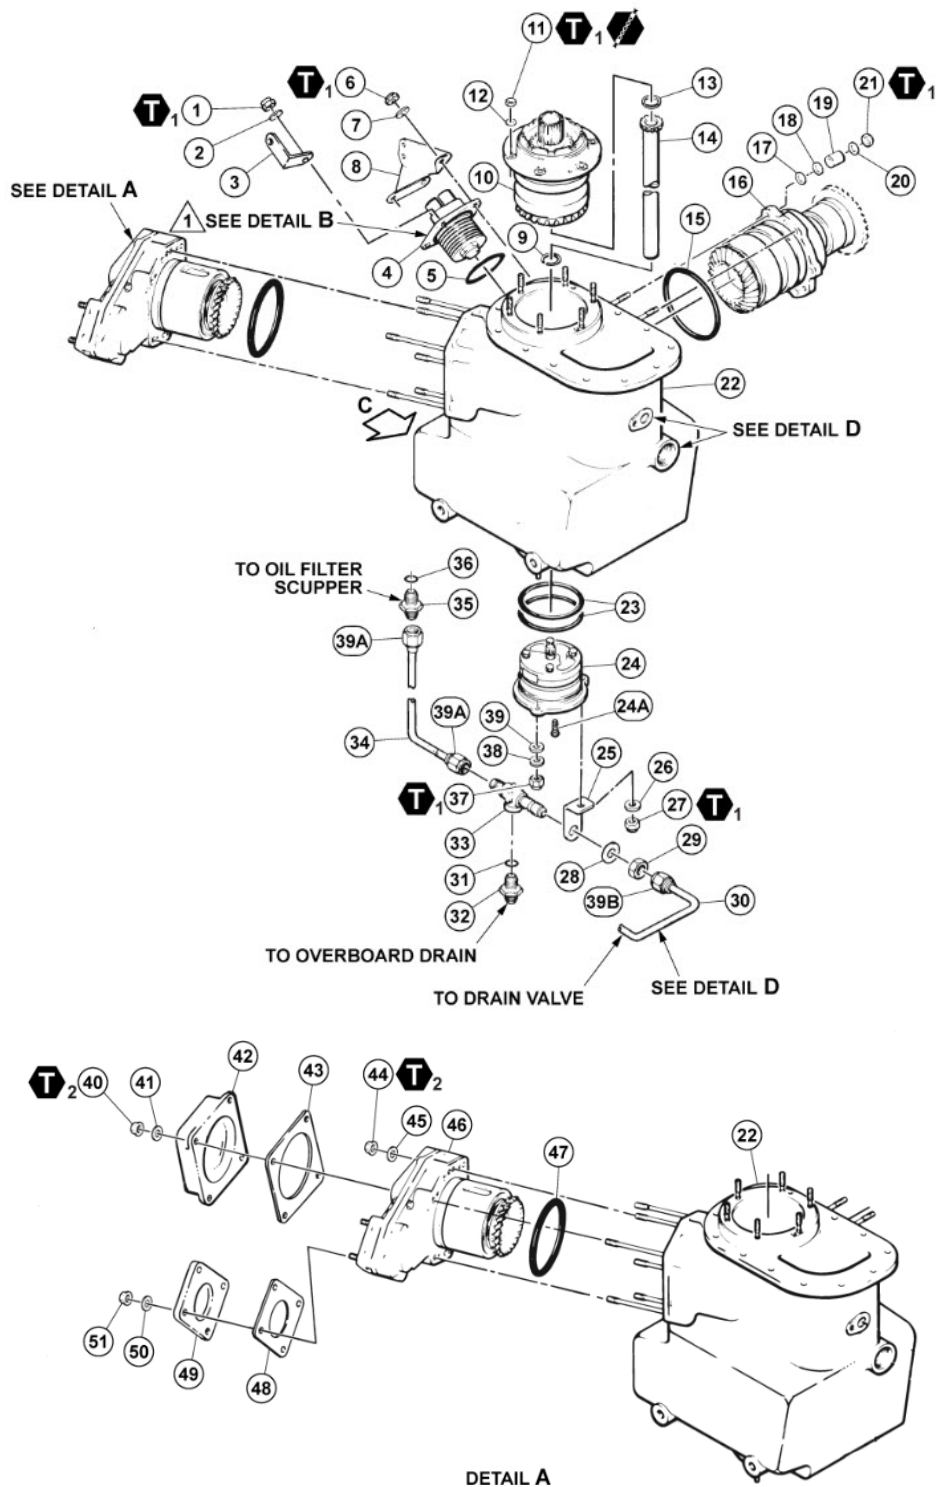

Figure 2. Accessory and Tail Rotor Drive and Sump Assembly. (Sheet 1)
- b. Remove the six nuts (11) and steel washers (12).
- c. Install the Jackscrew Set (T101338) in the tail rotor drive pinion quill (10). Equally turn the jackscrews clockwise to pull the quill from accessory and tail rotor drive case (22).
- d. Remove the retaining ring (9).
- e. Remove the oil pump shaft (14) and the retaining ring (13).
4. Install the new tail rotor drive pinion quill (10, Figure 2) as follows:
- a. Install the retaining ring (13) in the tail rotor drive pinion quill (10).
- b. Put the oil pump shaft (14) in the quill and install the retaining ring (9).
- c. Heat the accessory and tail rotor drive case (22) at the port for the tail rotor drive pinion quill (10) with a heat lamp.
- d. Coat the mating surfaces of the quill with the same oil used in the transmission. Put the quill in the case and install the six steel washers (12) and the nuts (11). Torque the nuts 50 to 70 inch-pounds (5.65 to 7.91 Nm). Secure the nuts in pairs with Lockwire (C-405).